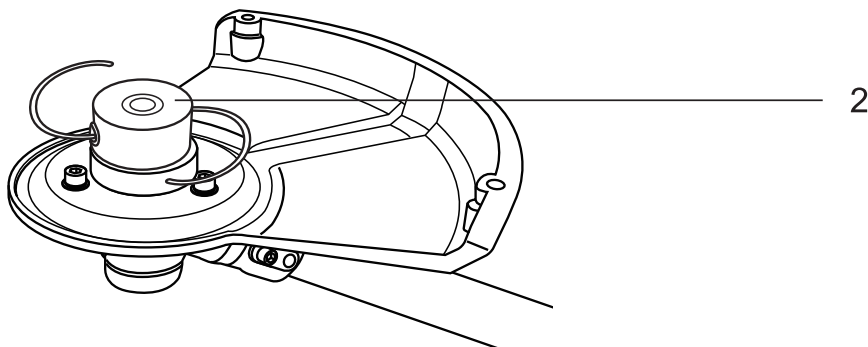

Fig. 23
2. Use the screwdriver to remove the nut and spacer (Fig. 23).